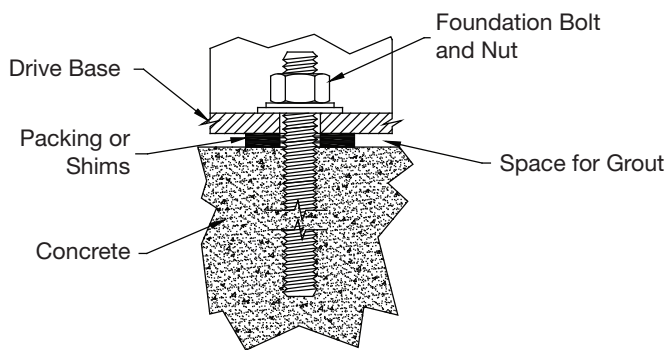

Figure 1
- Foundation bolts should be secured in the concrete as shown in Fig. 1. Allow adequate length for the bolts. Foundation bolts can be placed in the concrete at the time the concrete is poured.